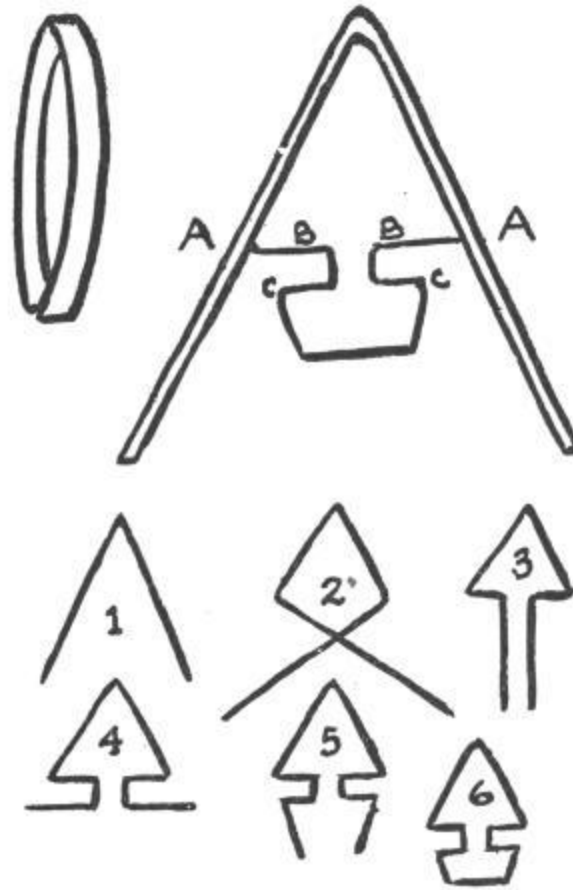

FIG. 21.
**Bending to Shape Over Design.**—When the strip is cut, bring the ends of the strip together and press the bend in to form an angle. This angle will not only form the top of the tree but will mark the center of the strip as well. Bend the strip apart until it conforms to the design on paper from the top of the tree to the first bend on one side as shown in Fig. 21. Mark the strip of tin at A. A.
Take the flat-nosed pliers and bend the tin in on each side to conform to the line *B*. Let the ends of the strip go past each other as shown in Fig. 21, 2, and in the illustration of bending. Next bend both ends of the strip at *C*. *C*. and so on until the complete outline of the tree drawn on paper is followed by the strip of tin. The various steps in the bending are shown in Fig. 21, 1 to 6. The joint at the bottom of the design should overlap about  $\frac{1}{4}$  inch.